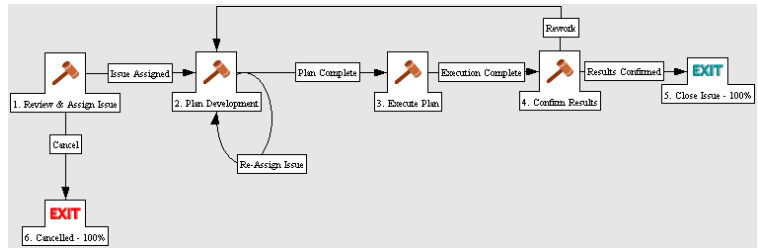

Figure 6-1. Issue lifecycle
- *Figure 6-1* shows the issue lifecycle.